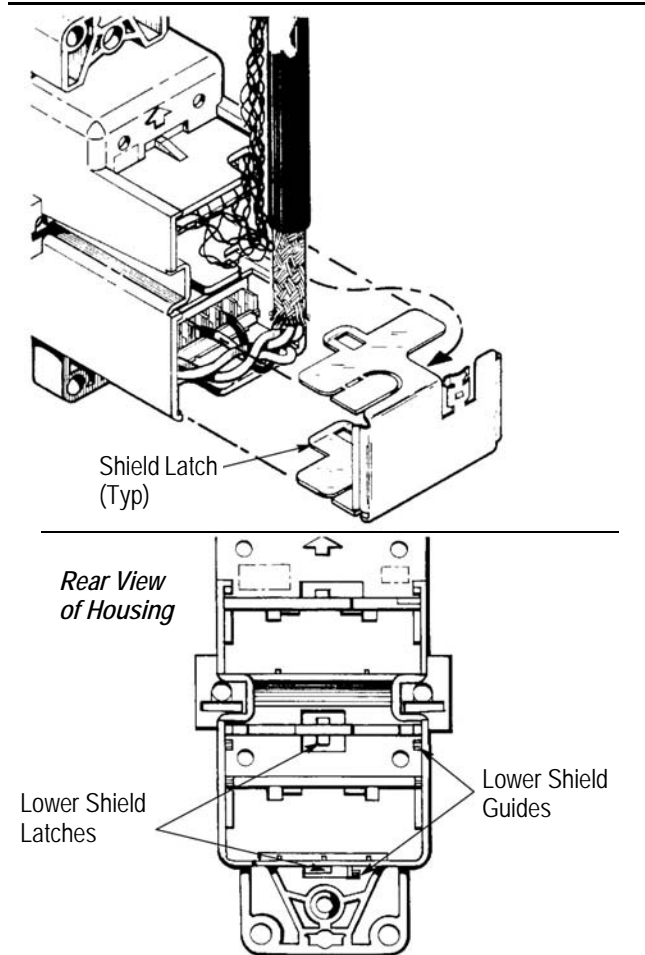

Figure 9
1. Slip shield over cable as shown in Figure 9. Insert shield into guides in back of housing and push shield onto housing until latches snap into place.